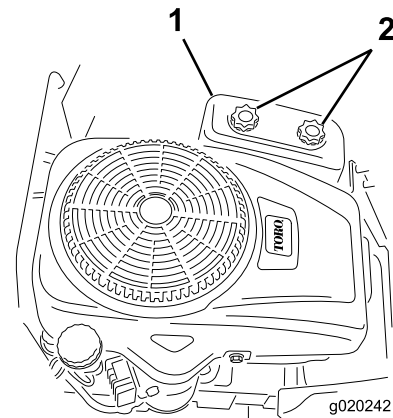

Figure 32
4. Remove the air-cleaner cover by unscrewing the 2 knobs (Figure 32).
3. Install the air-cleaner cover, and tighten the 2 knobs (Figure 32).